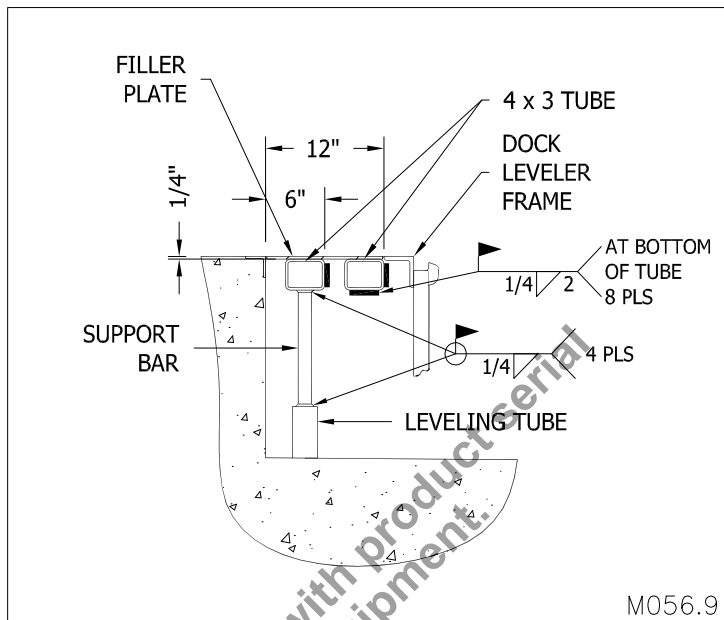

Figure 27: Welding the 4 X 3 Rectangular Tubing to the Curb Angles
4. Slip the levelling tubes over the support bars and lightly tack in place so that it does not fall off while inverting the rectangular tube as indicated in "Figure 27: Welding the 4 X 3 Rectangular Tubing to the Curb Angles" on page 26.
5. Position the 4 X 3 inch rectangular tubes as indicated in "Figure 27: Welding the 4 X 3 Rectangular Tubing to the Curb Angles" on page 26. Make sure the top surface of the rectangular tube is 1/4" below the top surface of the curb angle. This will allow the filler plate to be welded flush to the top surface of the curb angle.
6. Weld the ends of the rectangular tubing to the side curb angle as indicated in "Figure 27: Welding the 4 X 3 Rectangular Tubing to the Curb Angles" on page 26. Add vertical welds at the ends of the tube between tube surface and side curb angle surface.
8. Weld the levelling tubes to the support bars using full fillet welds as indicated in "Figure 27: Welding the 4 X 3 Rectangular Tubing to the Curb Angles" on page 26.